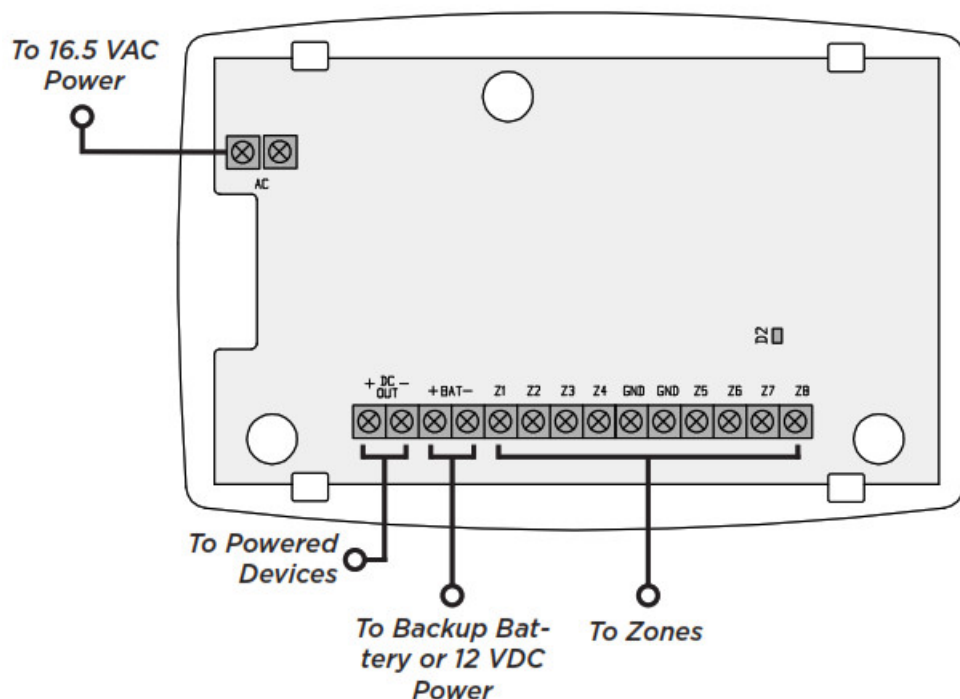

Figure 3: 1158 Zone and Power Wiring
1. Connect the 1158's **AC** power terminals to the existing panel's 16.5 VAC power supply. See Figure 3.
1. Connect the 376L flying leads to the BAT terminals on the 1158. See Figure 3.